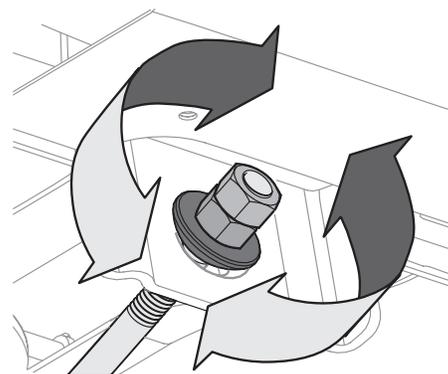

Figure 4-5
- To raise the front of the deck, loosen the outer nut then tighten (thread inward) the nut against the front hanger bracket. See Figure 4-5. When proper adjustment is achieved, re-tighten the outer nut to 25-30 ft.-lbs.